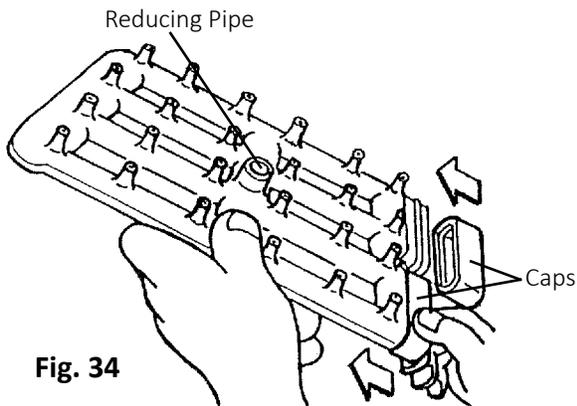

Fig. 34
- Refit the 2 caps in their correct positions. Make sure the reducing pipe is in place in the center. See Fig. 34.